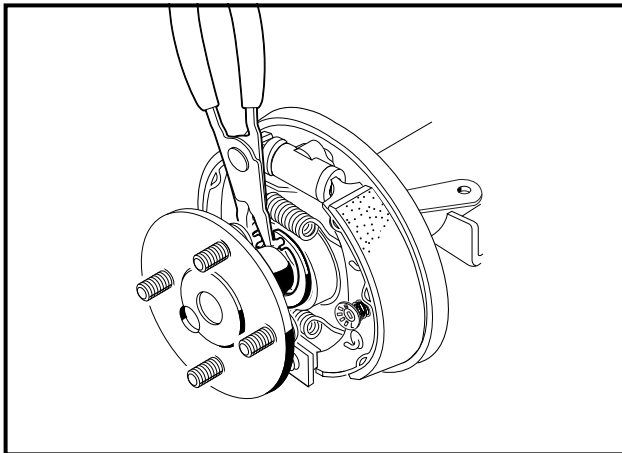

Figure 6-4 Remove Axle Retaining Ring
- 2.1. Using 90° internal snap ring pliers (.090 tip) (CCI 1012560), remove internal retaining ring from axle tube (**Figure 6-4, Page 6-9**).
- 8.2. Install retaining ring in the axle tube (**Figure 6-4, Page 6-9**).